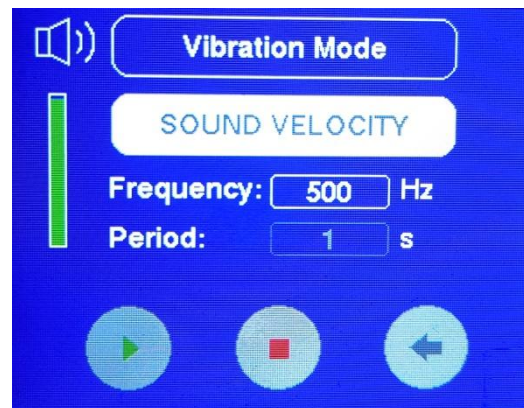

Fig.12.
7.5.2. Select the submode of operation with the V-head, namely, change to “SOUND VELOCITY” position and activate the submode of generating a special continuous acoustic signal for measuring the speed of sound in the pipeline section (see Fig. 12).